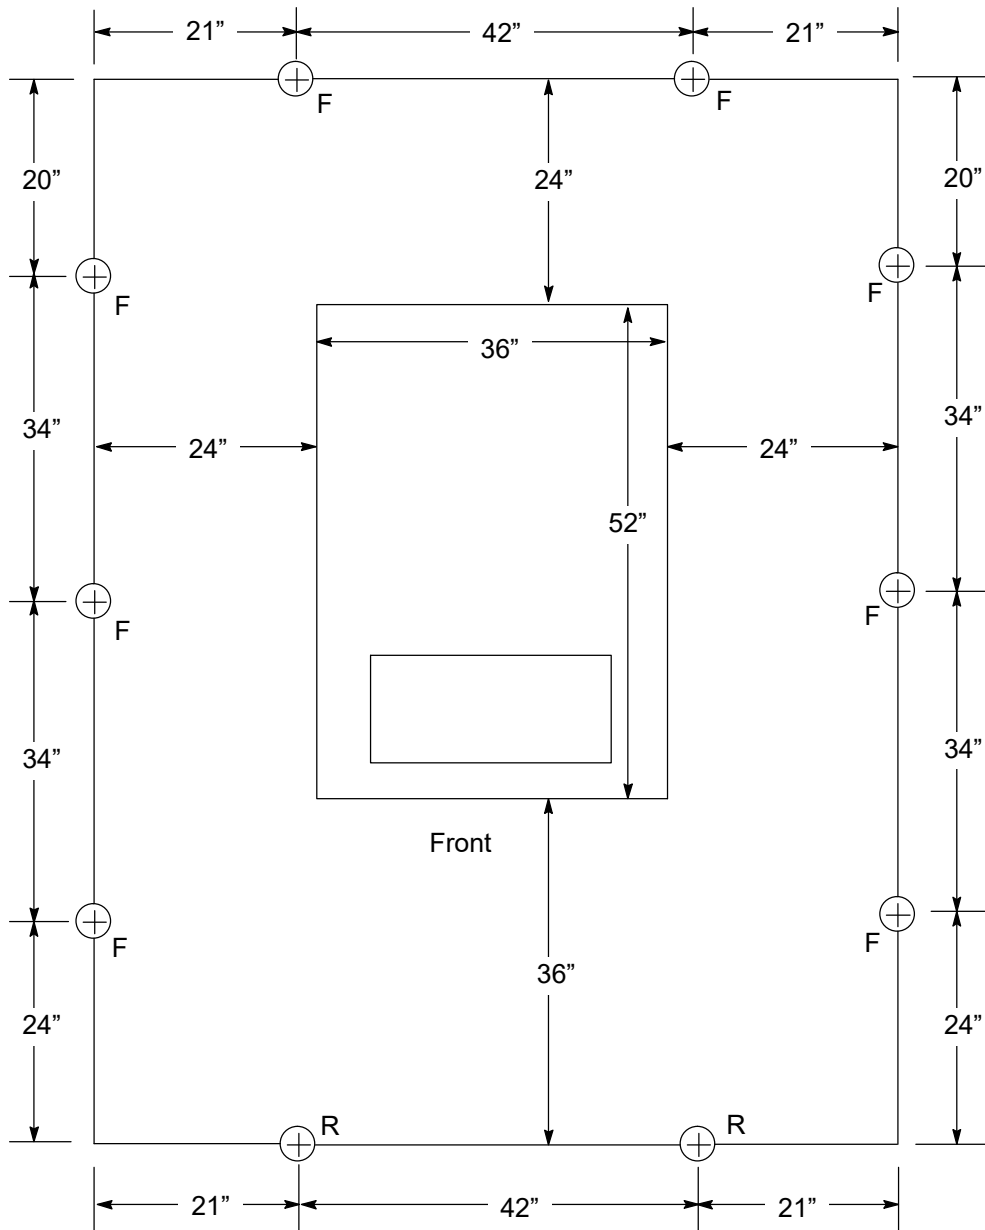

Figure 11
- J. Preferred barrier post arrangements for specific equipment are provided in Figure 11 on Page 12 to Figure 23 on Page 24. These may be modified as needed, to meet specific layouts, but must conform to the requirements in Figure 10 on Page 11.